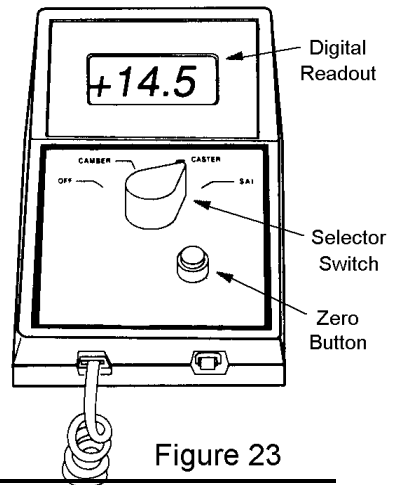

Figure 23
- 3) Set the selector to SAI and press the switch to ON. Press the Zero Button. (See Fig. 23)
- 6) Read SAI on the Digital Readout Scale (A positive 14.5 is indicated Fig. 23)